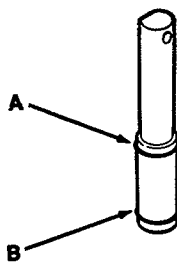

Figure 38. Spigot "O" Ring Installation
- A. Assemble "O" ring (A) onto spigot from the top and "O" ring (B) from the bottom. (See Fig. 38.) Apply a thin coat of sanitary lubricant to the outside of spigot and "O" rings.